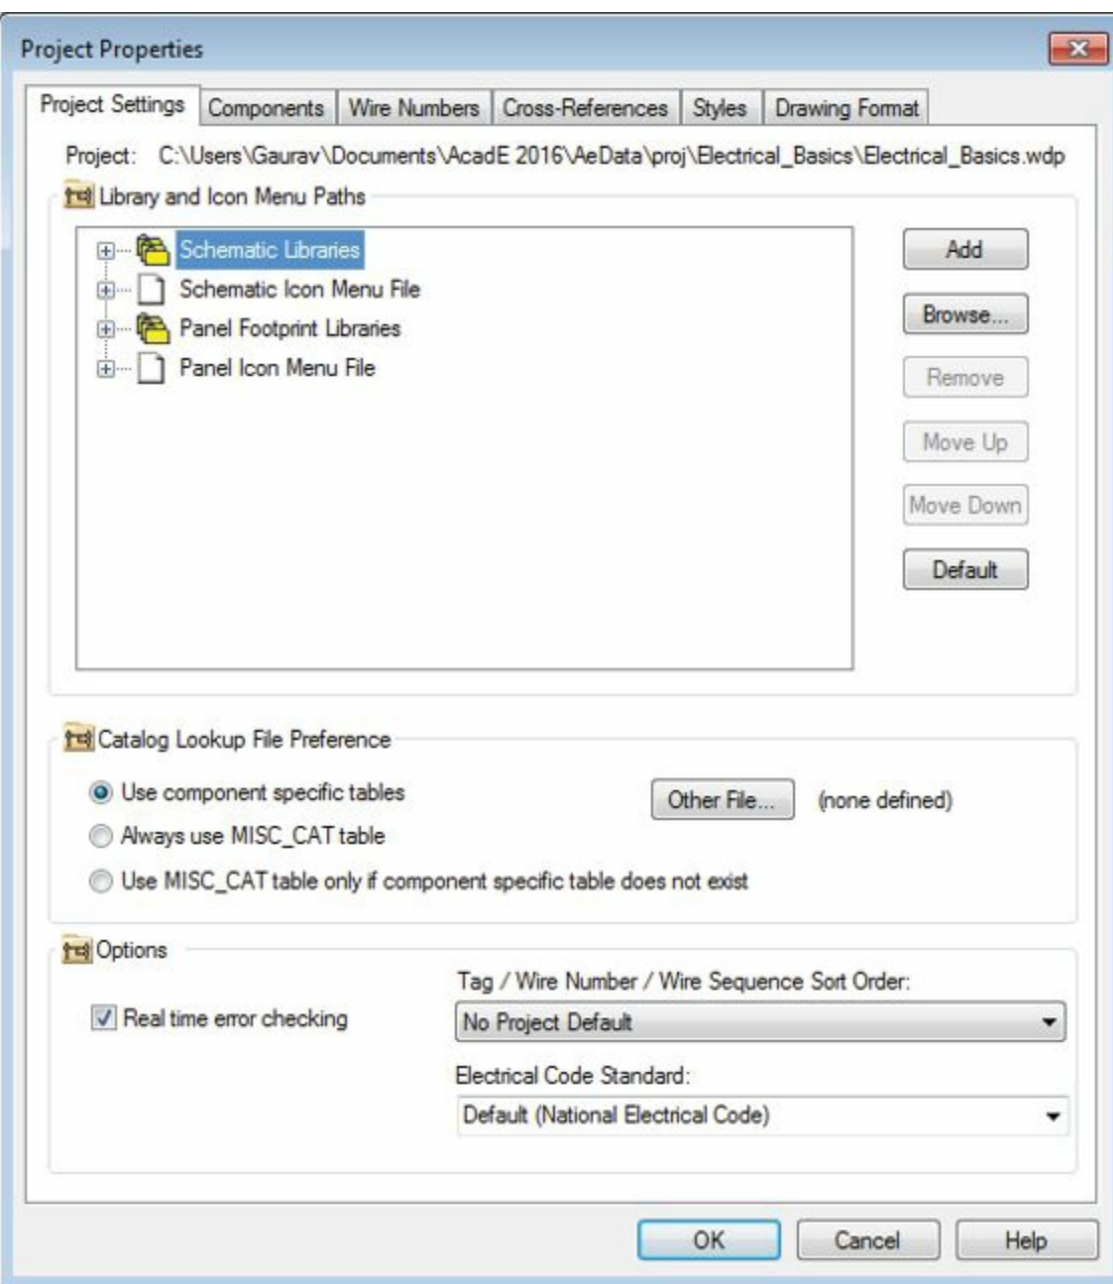

Figure-8. Project Properties dialog box
- Click on the **OK** button to create the Project. If you want to specify the properties of the project while creating, then click on the **OK - Properties** button. The **Project Properties** dialog box will be displayed; refer to Figure-8.
- Click on the **Properties** button in shortcut menu. The **Project Properties** dialog box will be displayed as shown in Figure-8.